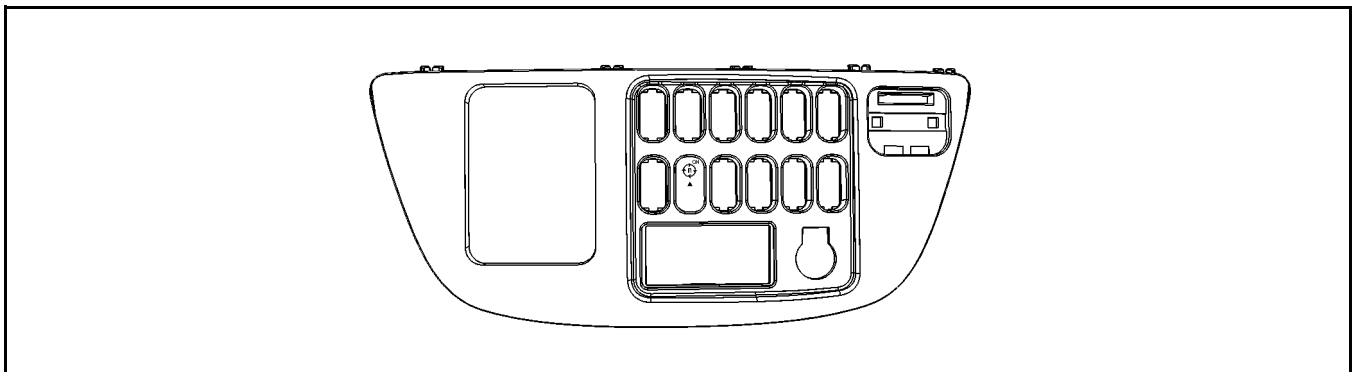

Figure 9 Constant RPM Switch Location
9. Ensure the constant rpm switch is located as shown on Figure 9. Do not install the center stack cover yet.